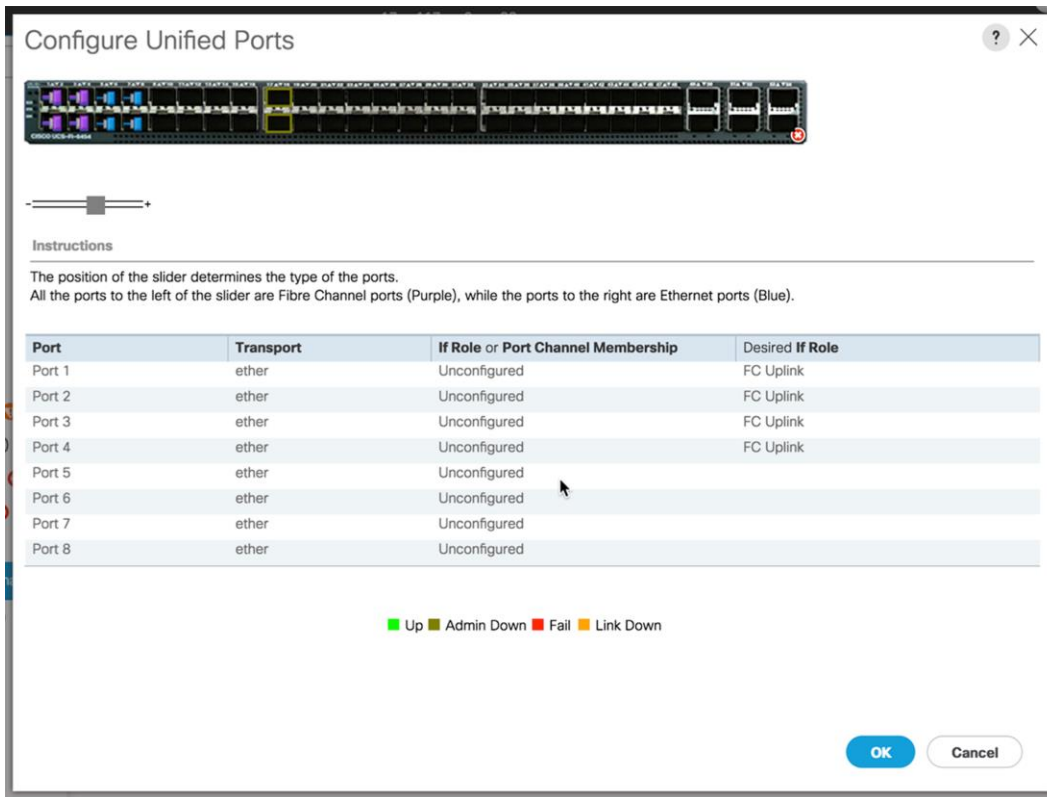

Figure 18.
Step 9: Convert Ethernet ports to Fibre Channel ports and reboot (Figure 18). The default speed will be 16 Gbps. If 8-Gbps Fibre Channel optics are used, then the port will be error-disabled. Manually set the speed to 8 Gbps and disable and reenab the port. If the system is connected to a Cisco MDS 9000 Family switch, then you need to configure the “fill-pattern IDLE speed 8000” setting.